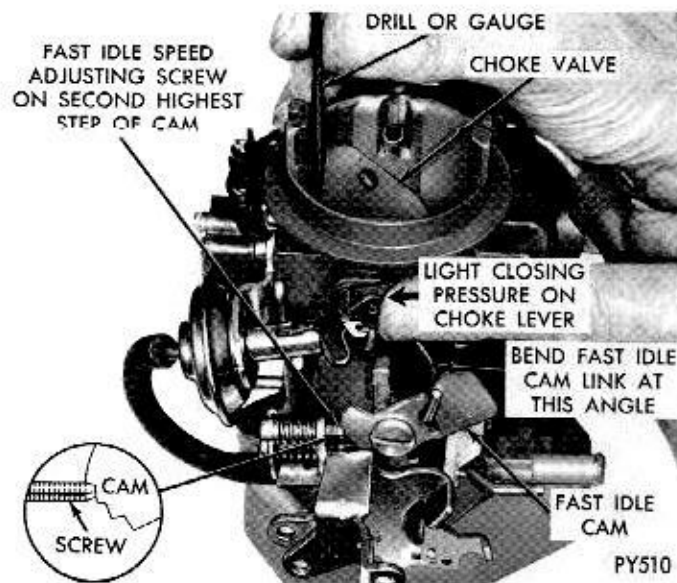

Fig. 11—Fast Idle Cam Position Adjustment
(1) With fast idle speed adjusting screw contacting second highest step on fast idle cam (Fig. 11), move choke valve toward closed position with light pressure on choke shaft lever.
(2) Insert specified drill between top of choke valve and wall of air horn. (See Specifications at rear of Fuel System Group.)
(3) If an adjustment is necessary, bend fast idle link at lower angle, using Tool T-109-213, until correct valve opening has been obtained. (Fig. 11).